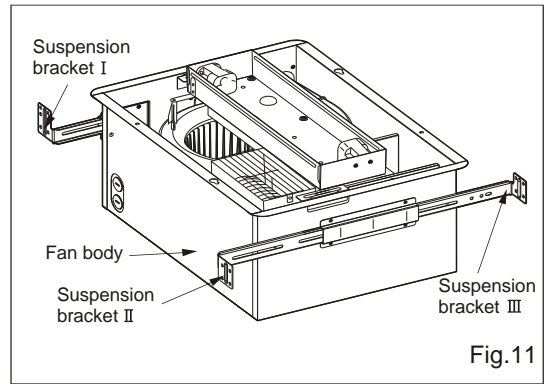

Fig.11
2. Insert the suspension bracket into bracket cover of adaptor side and the back of the fan body. (Fig.11)